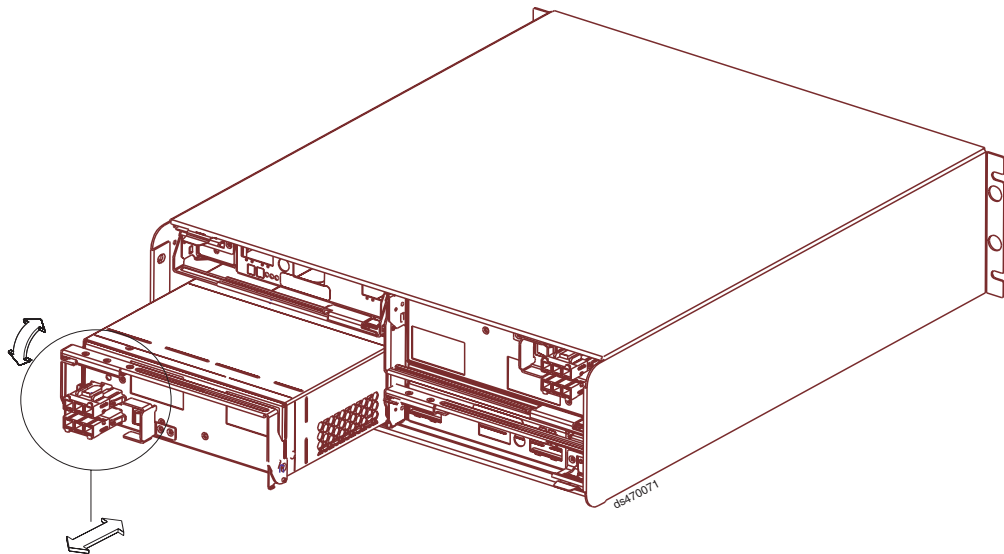

Figure 29. Replacing a dc power supply and fan unit
1. Slide one dc power supply and fan unit into the storage subsystem. Be sure to replace the dc power supply and fan unit so that the lever on each dc power supply and fan unit opens toward the interior of the storage subsystem, as shown in Figure 29. Do not force fit. The dc power supply and fan unit is designed to prevent it from being inserted into the chassis incorrectly.
Attention: Be sure that the lever is pulled straight out as you slide the dc power supply and fan unit into the storage subsystem, as shown in Figure 29. The left and right dc power supplies are seated in the DS4700 Express chassis in opposite orientations. If you cannot fully insert the dc power supply and fan unit into the dc power supply and fan unit bay, flip it 180° and reinsert it.